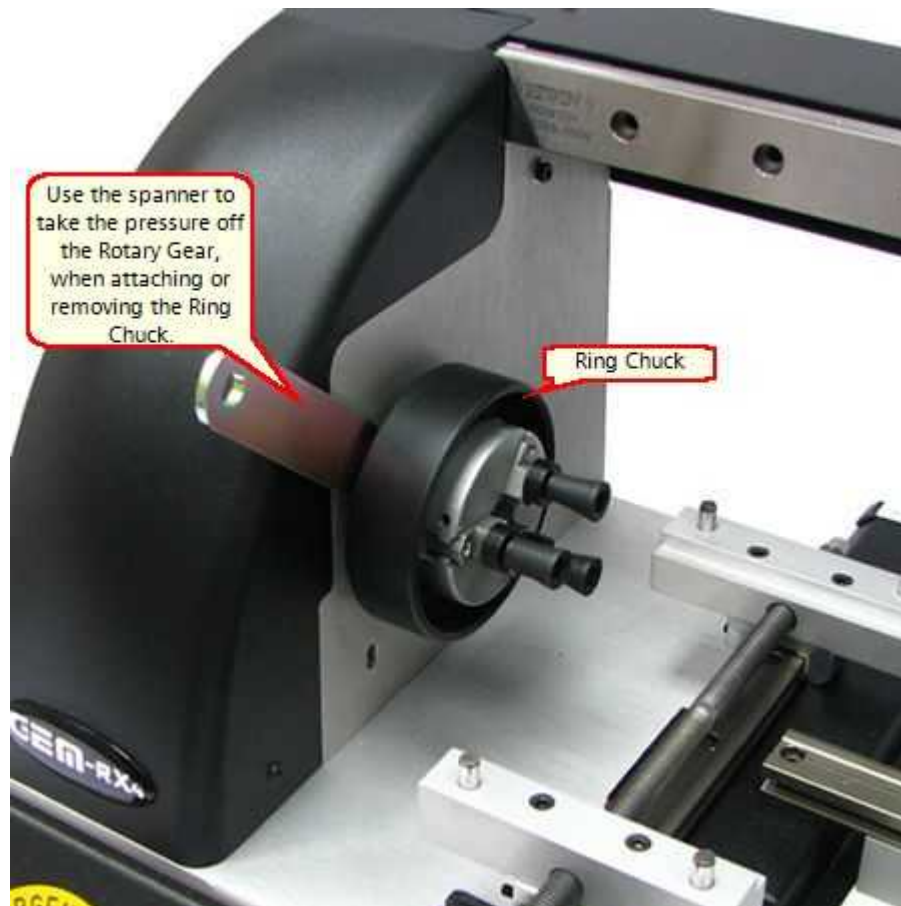

Figure 1
- 7 Right Click On the selected line (the Dotty one), you will then have a Dialogue Box select Basic Text Edit You will then be in the by now familiar Basic Text Editor, see Figure 1.
It has been brought to our attention, that some users are attaching and removing the “Ring Engraving Attachment”, without locking the Chuck using the spanner provided with the original purchase of the machine. This can cause excess strain to be put on the cylindrical gears, leading the premature failure. Always use the Spanner provided and do not over tighten, see Figure 1.
The Spanner is attached to the two flats on the cylindrical mounting, see Figure 1.